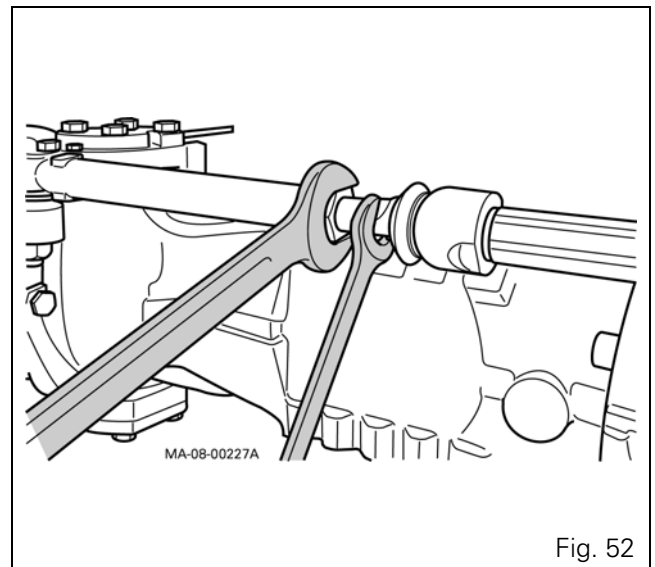

Fig. 52
45. When the adjustment is correct, screw the selector rail locknuts to the required torque (see section 8A01 § A) (Fig. 52).